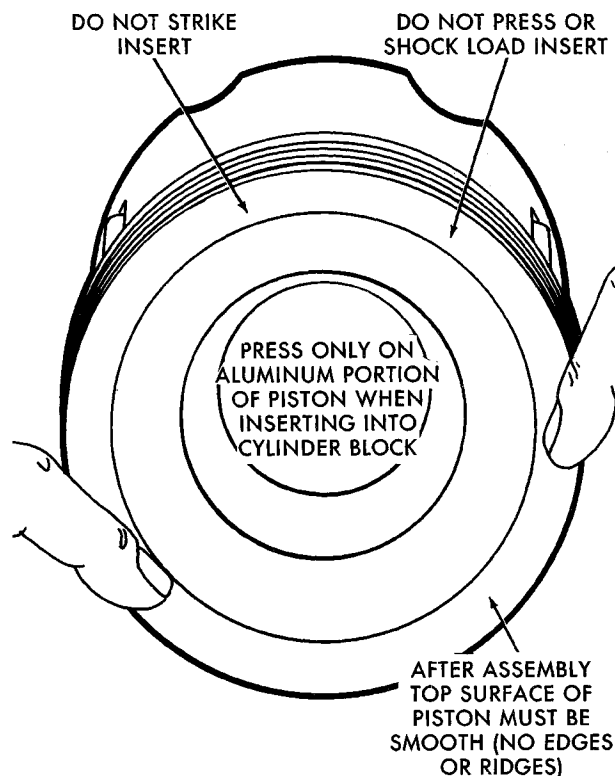

Figure 58
3. Run your fingernail across the bond line on top of the piston at several points around the total circumference. See Figure 58. If you sense any irregularities or step between these surfaces at any point, it is likely that the piston bond has been fractured and the piston should be replaced.